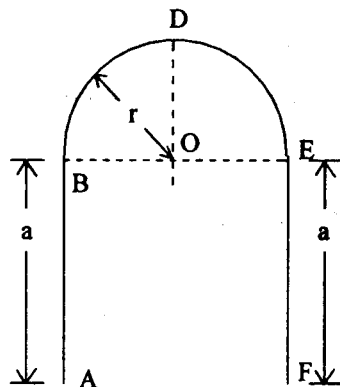

Fig. 9
- (a) Determine length of wire such that centroid is located at point 'O'. Find the length in terms of 'r' Fig. 9.